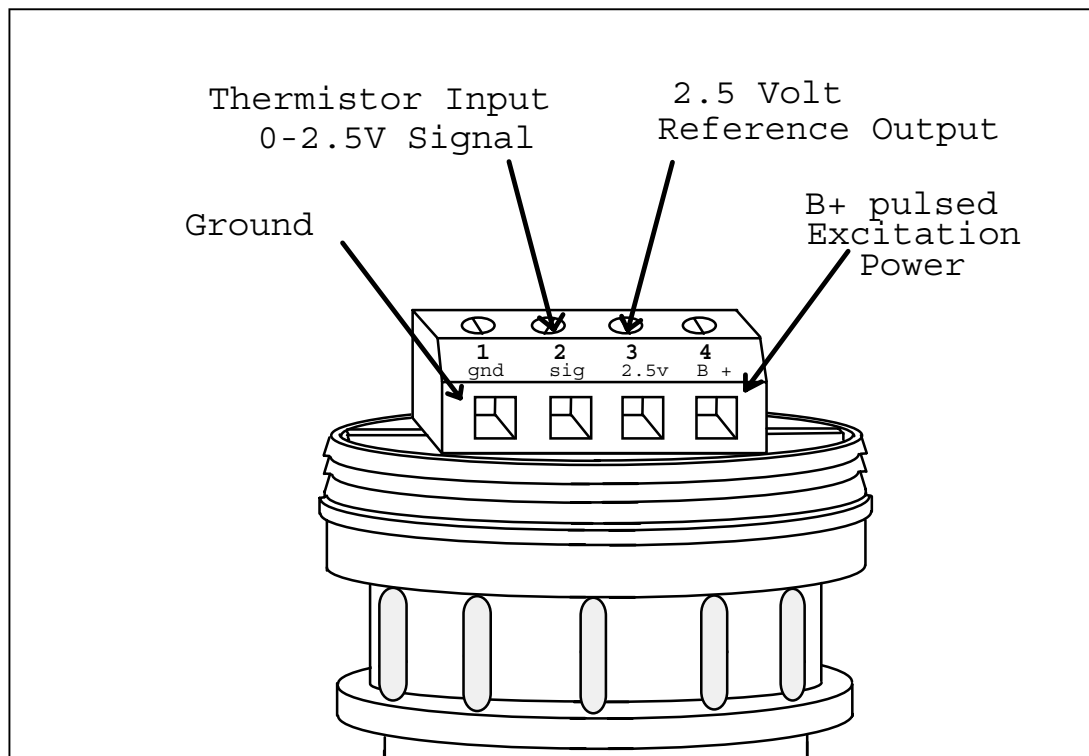

Fig. 1 IPT Terminal assignment.
The four screw terminals are used to connect the sensor. If the sensor does not need excitation power, only two of these terminals are used. The first screw terminal (1) is common ground. The second screw terminal (2) is an analog input that has a useful input range of 0 to 2.5 Volts. It has a 9990W input impedance to terminate the Thermistor. The next two screw terminals (3 and 4) offer excitation for the sensor. The third screw terminal (3) is a precision 2.500 Volt excitation output. This output has minimal drive capability (5 milliamperes maximum). The power is pulsed on for a short duration then turned off. The length of the on-time power pulse can be set when programming the datalogger's header. The fourth screw terminal (4) is a B+ switched output. The voltage level of the B+ terminal depends on the battery system being used with the datalogger. The on-time is the same as that for the 2.500V precision excitation output. Fig. 1 shows the position of the screw terminals.